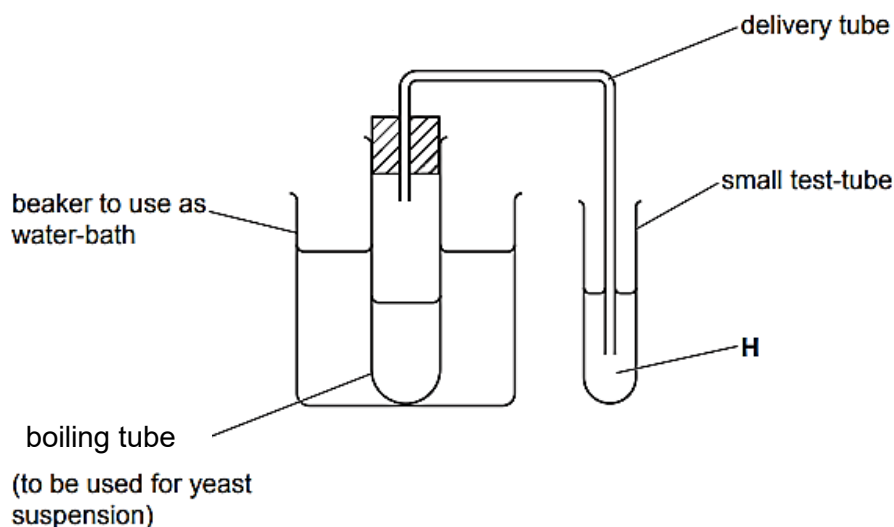

Fig. 1.1
Fig. 1.1 shows the apparatus you will set up for the investigation.
- 12 Put the bung in the boiling tube, and make sure it covers the mouth of the boiling tube tightly. Ensure the end of the delivery tube is in **H**, as shown in Fig. 1.1.
- 17 Put another test-tube of **H**, prepared in step 7, into the apparatus shown in Fig. 1.1.